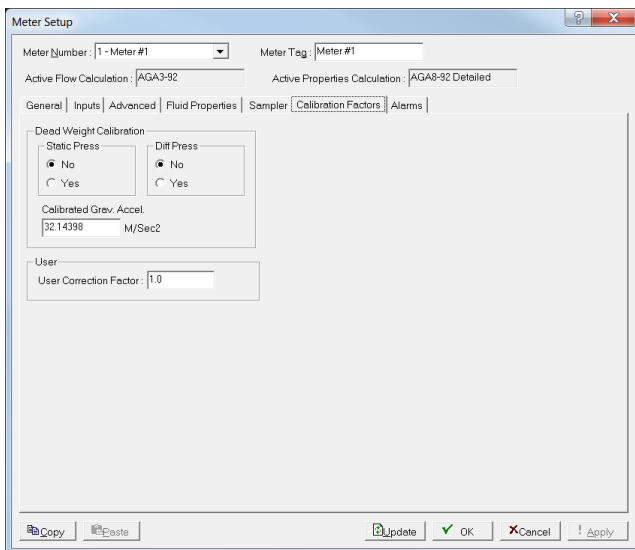
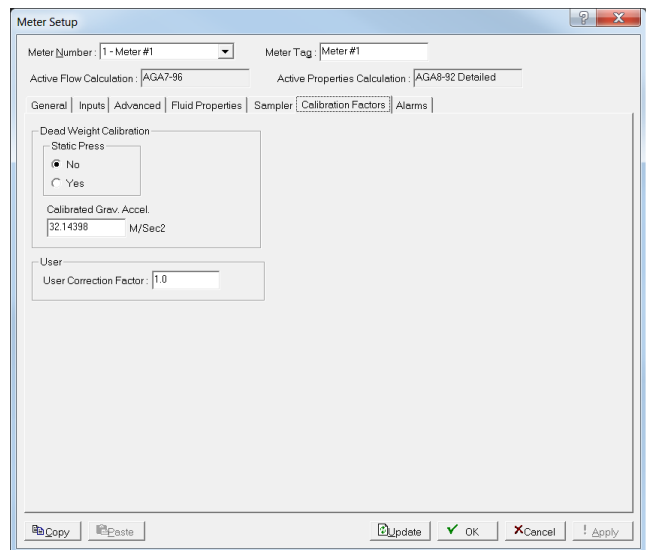

Figure 8-12. Meter Setup, Calibration Factors tab (Orifice Meter)
Figure 8-13. Meter Setup, Calibration Factors tab (Turbine Meter)
**Note:** Which screen displays depends on the calculation standard you selected on the General tab. Select **AGA3-1992**, **AGA3-2013** or **ISO5167-2003** (orifice or differential calculations) to display *Figure 8-12*. Select **AGA7-2006** (linear calculations) to display *Figure 8-13*.